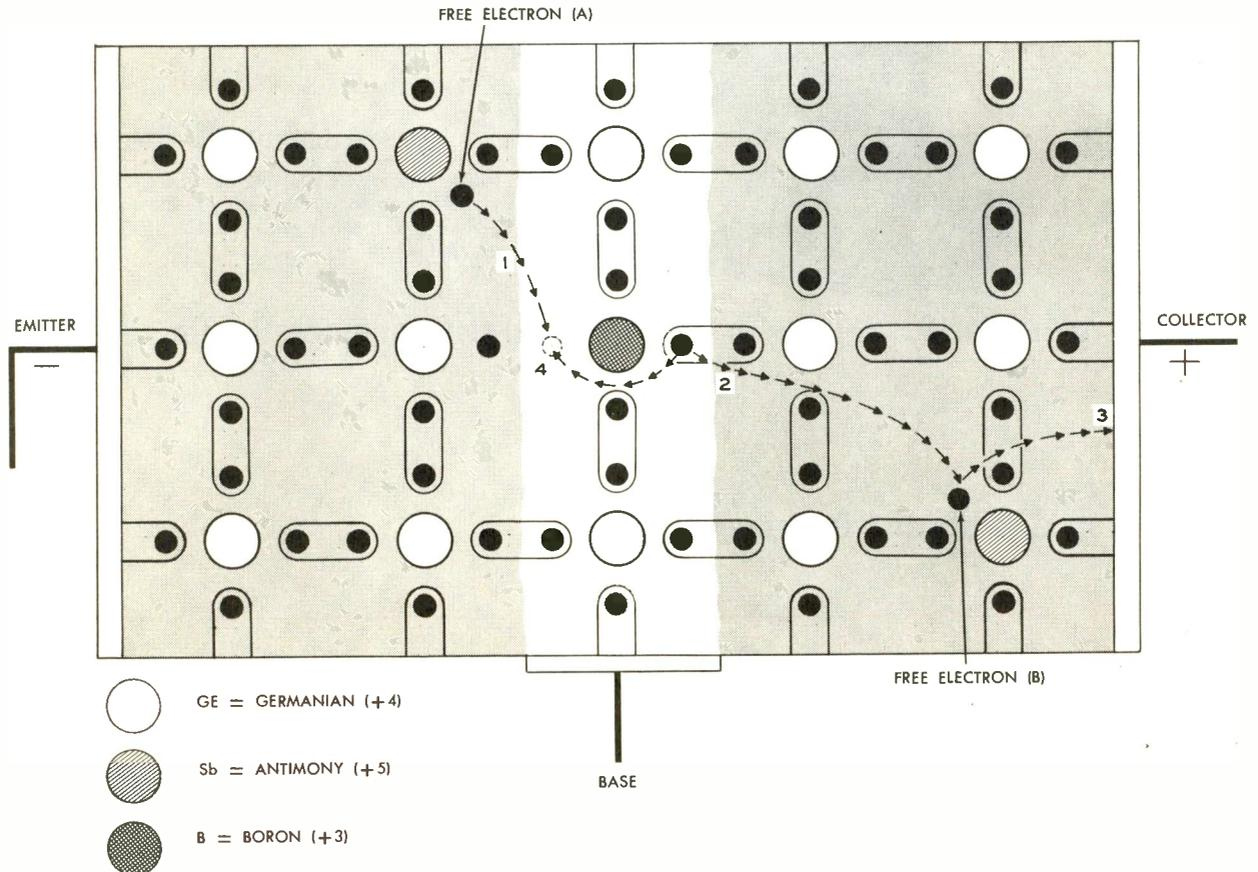

Figure 7. Enlarged Portion of Junction Transistor Showing Carrier Action.
this unit. Note in the sketch of Figure 7 that current in the collector depends on free electrons from the base. Since the base is P-type there are no electrons or N-carriers, thus the collector is biased in the reverse or high impedance direction. Current in the emitter circuit depends on P-carriers from the base; therefore, as the base is P-type, current will flow, and the emitter is biased in the forward direction. The emitter need be made only a fraction of a volt negative to cause the free electron (A) to flow from the emitter into the base. This electron, when it crosses the N-P barrier (position 1), fills the hole in the boron atom. This hole is normally on the emitter side of the boron atom due to the attraction toward the negative potential on the emitter. The boron atom, having a positive charge of only 3, cannot hold more than 3 valence electrons. The extra electron is attracted by the positive charge on the collector and crosses the P-N barrier (position 2). Since the collector itself has an extra electron (B), it is replaced by the new electron and flows out through the collector output circuit (position 3). The hole in the collector side of the boron atom returns to the emitter side (position 4), and is thus